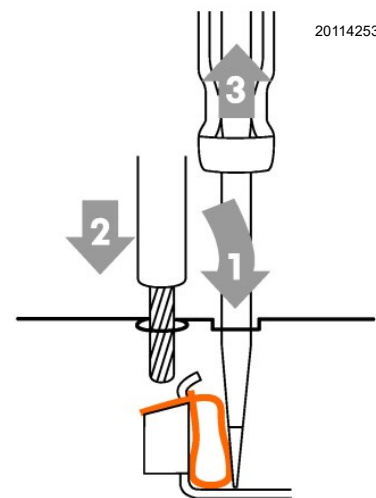

Fig. 20
- Insert the previously stripped cable and remove the screwdriver. Make sure the cable is securely fastened Fig. 20.